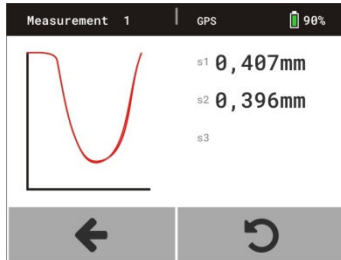

Figure 13
- The values of settlement amplitudes  $s_1$ ,  $s_2$  and  $s_3$  with settlement curves are displayed on the screen (Figure 13).